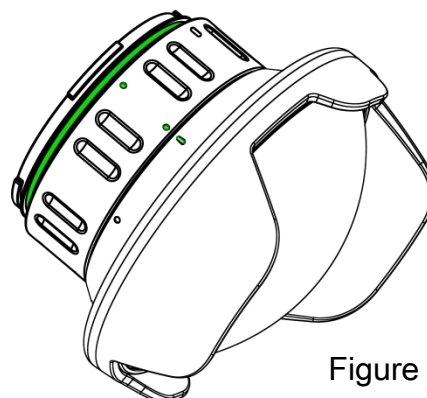

Figure 1
- 03 Align the dot sign on the extension ring to the bar sign on the dome port, then press the extension ring onto the dome port till they are fully attached. (As shown in Figure 1)